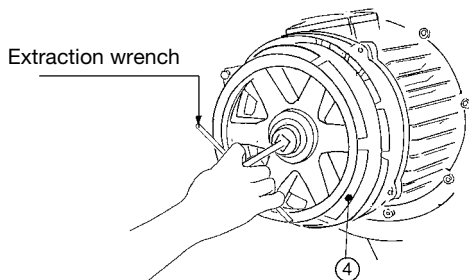

Fig. 18
Removing and installing: first make sure that there is no load applied, loosen the screws pos. 1 (Fig. 16), and remove the brake housing pos. 2 (Fig. 16) and remove the brake adjusting the ring nut pos. 3 (Fig. 16) with the special wrench (Fig. 17). Remove the brake fan pos. 4 (Fig. 18). Install the new fan pushing it forward with a lead mallet, install the brake housing pos. 2 (Fig. 16) and the screws pos. 1 (Fig. 16), and then perform the adjustment as shown in the section "brake fan adjustment" on page 66.